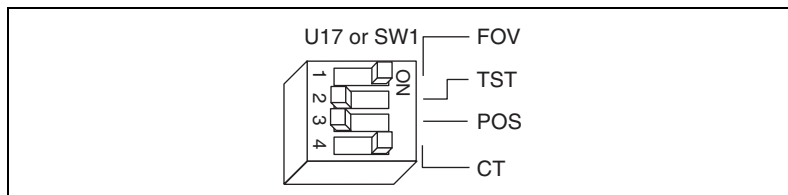

Figure B-2. Restoring the Factory Configuration
3. Change switch 1 (FOV) on U17 (SW1 on the PCI-MXI-2 Universal) to the ON position as shown in Figure B-2 to restore the factory configuration.